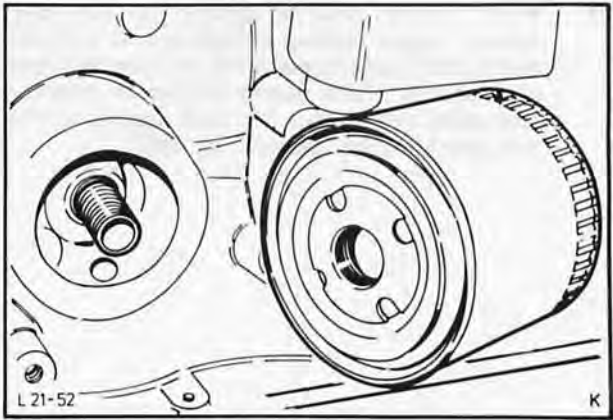

Fig. 111. Fit oil filter cartridge
51. Screw in oil filter cartridge until rubber gasket makes contact with housing, then tighten a further $\frac{3}{4}$ turn, Fig. 111. **Apply engine oil to rubber gasket before fitting.**